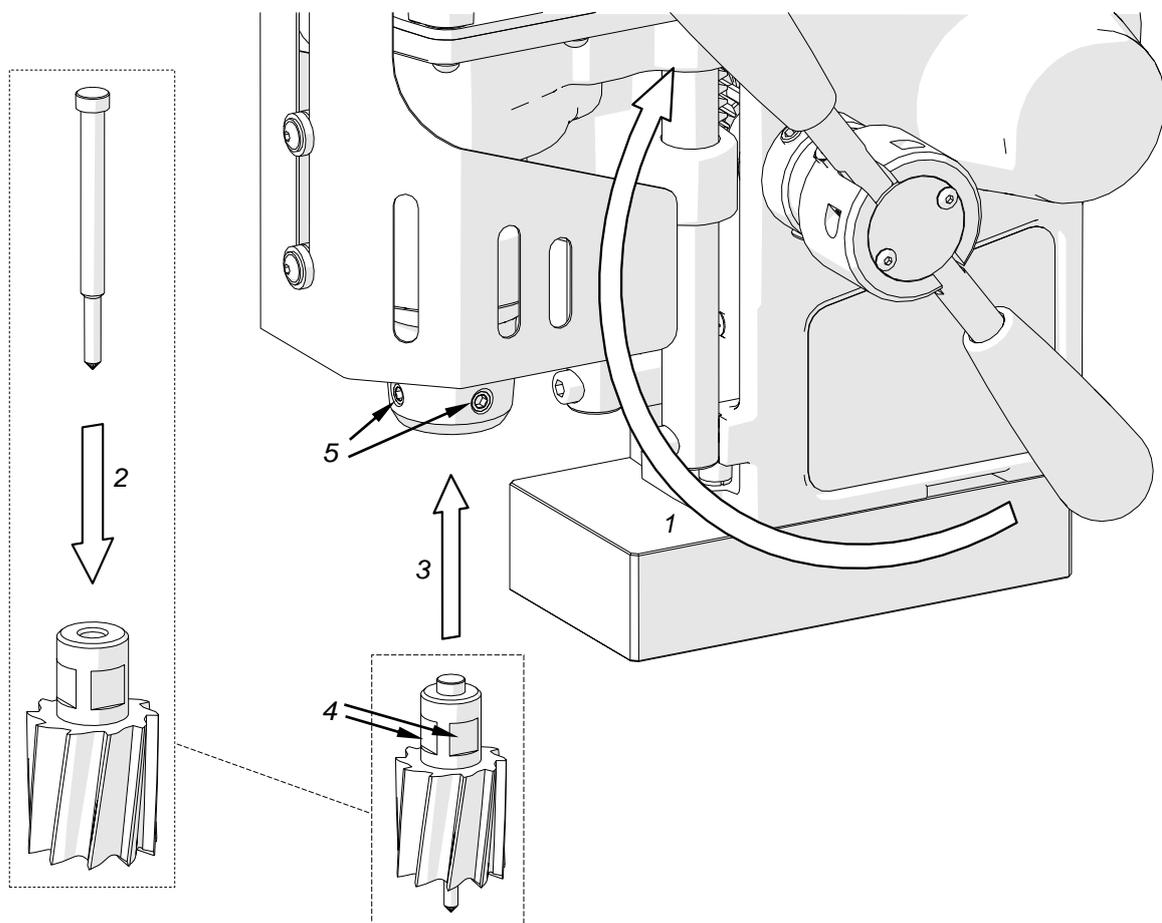

Fig. 2. Mounting the annular cutter
Unplug the power cord from the power outlet and raise the motor by rotating the spoke handles clockwise (1, Fig. 2). Insert the proper pilot pin into the annular cutter (2), then wear protective gloves and place the cutter into the arbor (3) in such a way to align the flats 4 with the set screws 5. Finally, tighten both set screws with the supplied 4 mm hex wrench. To remove the cutter, proceed in reverse order.